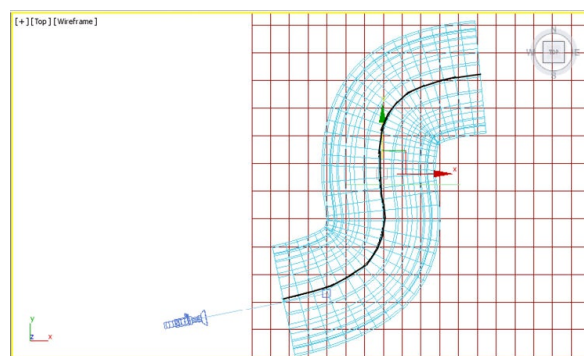

Figure 14-26 A line created for the path
2. Create a line from the lower left side to the upper right side of the viewport according to the shape of the *water tunnel*, as shown in Figure 14-26. Alternatively, you can also use the *Line001* spline created earlier to loft the tunnel.